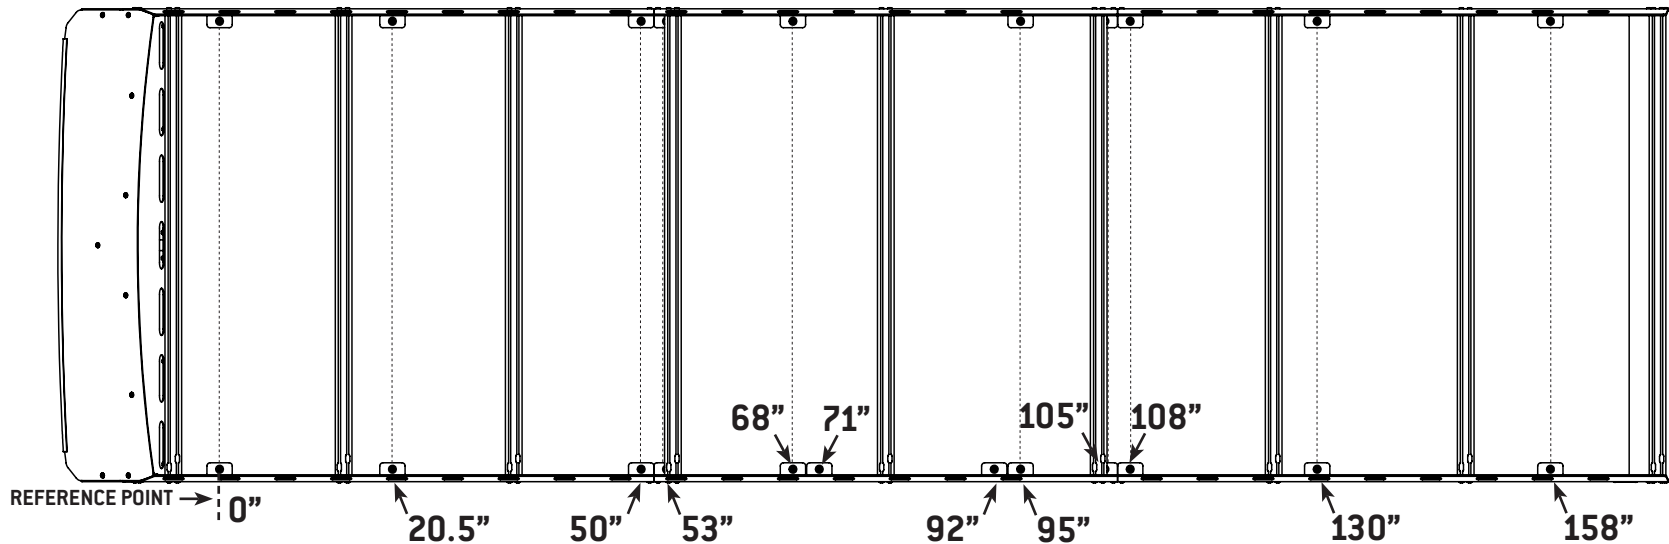

FIG 3
1.2 Layout Rail Nuts: Space out the Rail Nuts close to their final positions as roughly laid out in FIG 3.